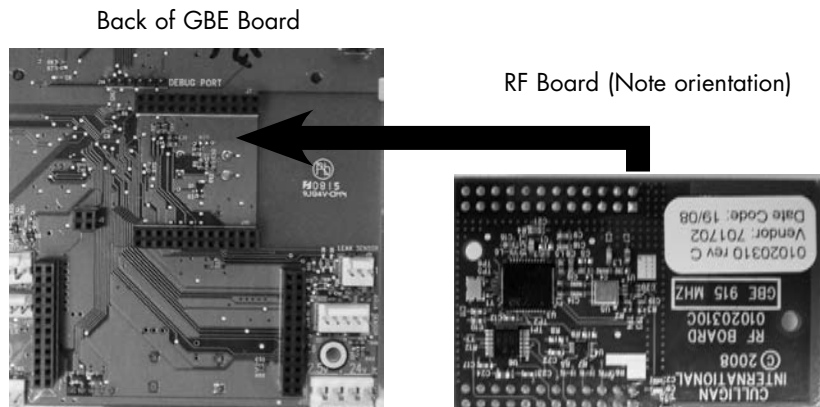

Figure 28
6. Disconnect power to the softener. Open the control and connect the RF board into the controller circuit board. Make sure the RF board is fully seated into all of the sockets (Figure 28). Reconnect power.
7. Install RF board into unit controller. Line up pins in RF board and press firmly into black connectors. Note orientation of RF board (Figure 28).